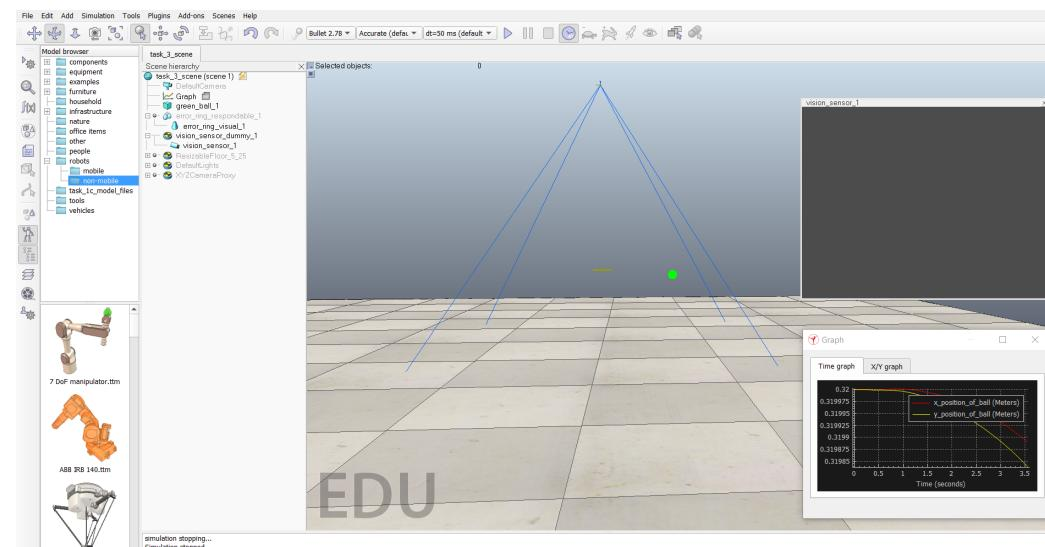

Figure 1: CoppeliaSim scene file (task_3_scene.ttt).
- A scene file i.e. **task_3_scene.ttt** of CoppeliaSim software as shown in Figure 1.